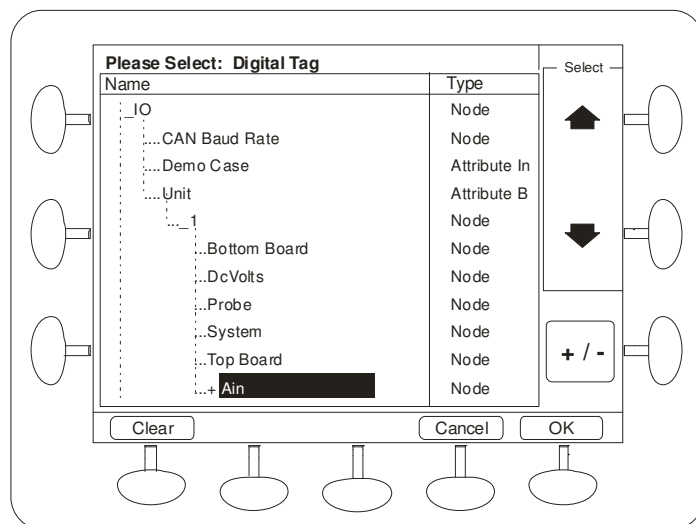
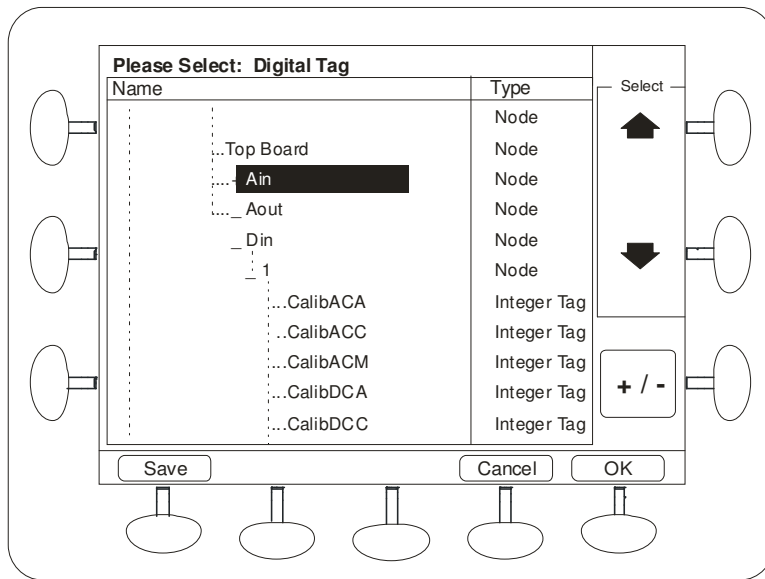

Figure 86 – Tag browser screen
Figure 87 – Tag browser screen –continued.
- Select a digital input tag. By default, this is set to DIN 20 on the top board. Any digital tag in the system can be selected, allowing greater flexibility than just using Digital Inputs. To choose another Digital Input, simply use the tag browser to find the appropriate DIN, and choose **ValueDigital** (see Figure 86 and Figure 87 in Section 11.1 below).